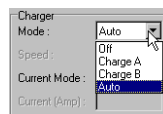

Figure 2-3. Select Charger Mode
4. Select the **Charger Mode** drop-down list to set the desired charger mode (Figure 2-3). **Current Mode** displays the charging battery: a, b, or none (off).